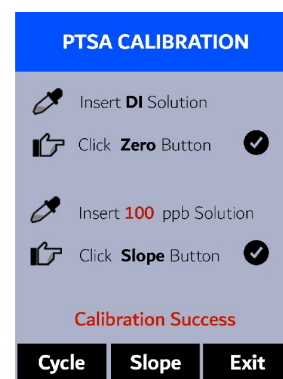

Figure 15.
11. If the calibration succeeds, a checkmark (**✓**), a “**Calibration Success**” message will appear (Figure 15). Otherwise, a warning message is displayed.